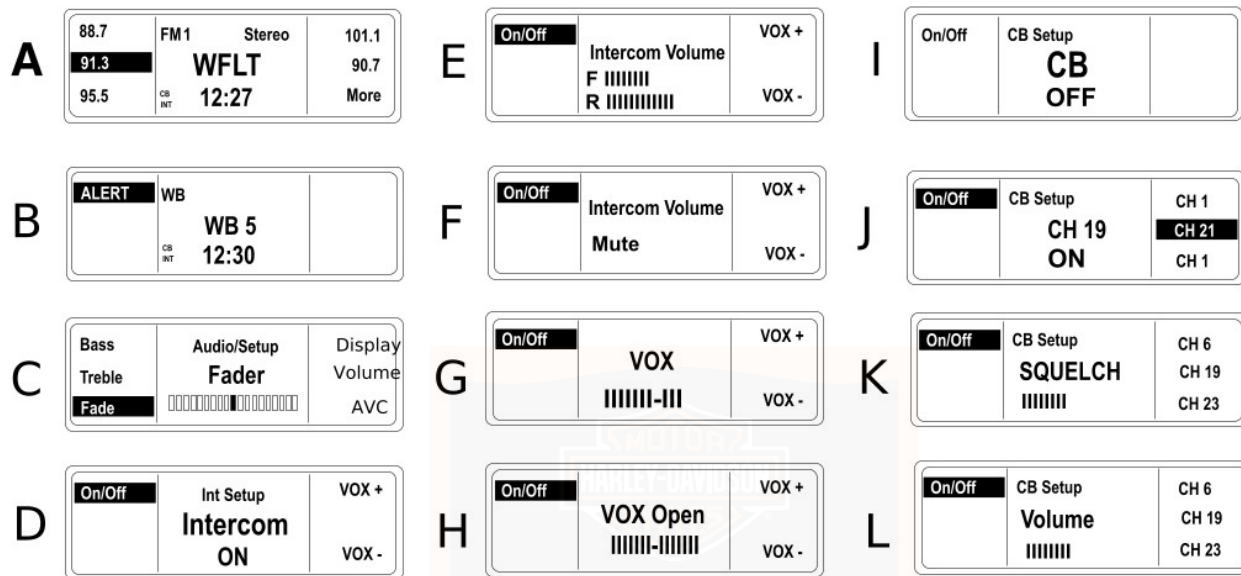

Figure 34. Display Examples
See D in Figure 34. To activate the intercom (INT) and the VOX microphones, press soft key **1** to turn the intercom ON.
See G in Figure 34. Press the **MODE SEL** switch **UP** or **DN** or press the **4** or **5** soft key to initiate the VOX display. The LCD displays VOX sensitivity as a bar graph with a smaller bar to indicate the center of the 14 bars. A higher number of bars indicates greater sensitivity while a lower number means less sensitivity.
See E in Figure 34. Enter Intercom Setup, speak into microphone and adjust the intercom volume with the **AUDIO** switch on the left hand grip. Press **AUDIO +** to raise the volume and **AUDIO -** to lower the volume. The LCD displays a dashed line that changes length with the level.
See F in Figure 34. When the headset volume has been adjusted to the bottom of its range, Mute will appear in the volume display.
See H and I in Figure 34. To activate the Citizen Band transceiver, press and release the **COM** pushbutton on the front panel. Press soft key **1** to turn the CB ON/OFF. The CB will activate in CB Setup with squelch threshold and channel settings from the previous use. CB channels are selected in CB Setup.
See J in Figure 34. With the CB on, press **COM** to enter CB Setup. The LCD displays CB SETUP in the upper half and the CB channel appears in the lower half.
See K in Figure 34. When squelch is broken, the CB in the display inverts. If the squelch is not broken and the another source is playing, CB is displayed.
See J in Figure 34. Up to 3 CB channels can be preset. Press and hold a soft key (4, 5, 6) to preset a CB channel.
See K in Figure 34. The CB signal is passed to the speakers or headsets only if signal strength exceeds the threshold set with the squelch control switch (**PTT/+SQ/-**). When CB signals exceed the threshold, they are said to "break squelch." Refer to Table 26.
Refer to Table 27. See L in Figure 34. To adjust volume of the CB in the speakers or headset, Press **AUDIO +** to raise the volume or -lower the volume. CB volume is adjustable when squelch is broken or when the display is in CB Setup.